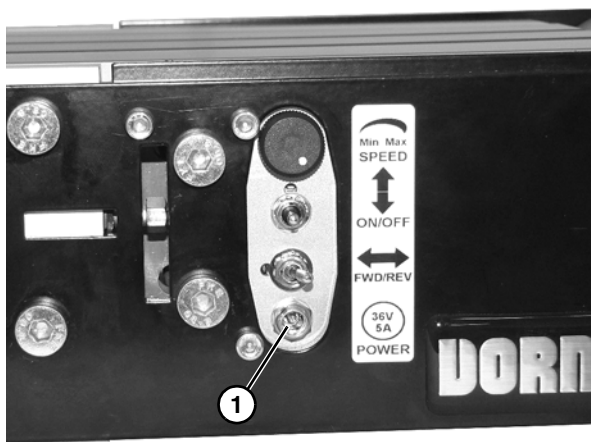

Figure 19
1. No wiring is required. Attach quick disconnect end of power supply to power jack (**Figure 19, item 1**).